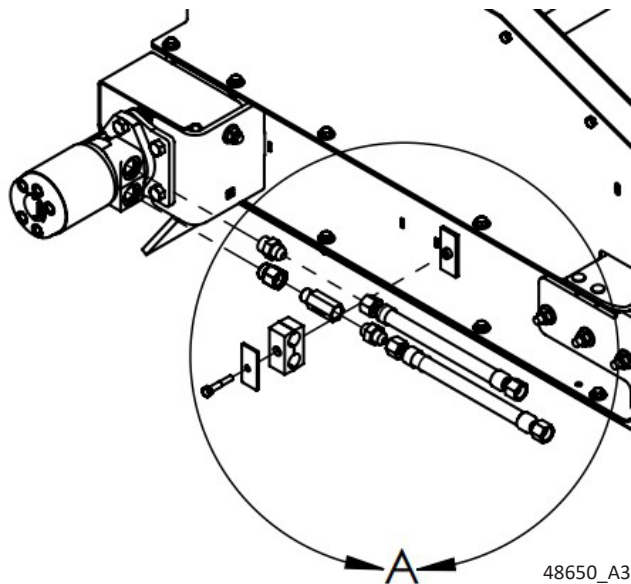

Figure 14: Attach hydraulic hoses and fittings to the motor
16. Connect the hydraulic hoses and fittings to the conveyor motor according to *Figures 14* and *15*, and *Table 2*.